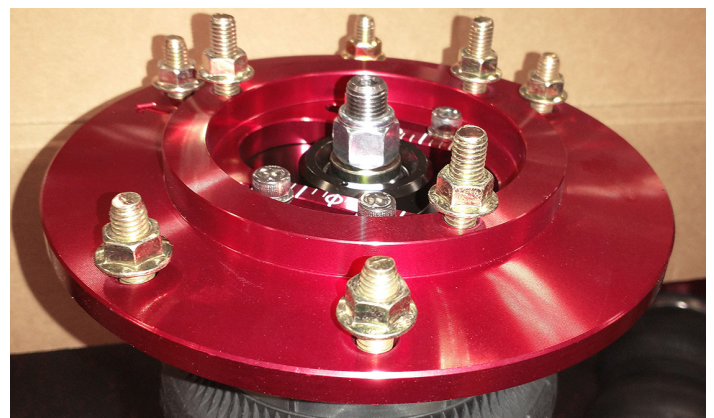

Fig. 25
10. Torque the lock nut onto the strut rod to 54Nm (40 lb.-ft.) (Fig. 25).